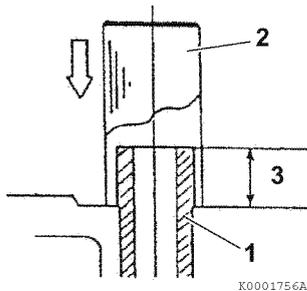

Figure 6-31
3. Finish installing the valve guides (1, **Figure 6-31**) into the cylinder head to the proper height (3, **Figure 6-31**) using the valve guide installation tool (2, **Figure 6-31**). See *Intake/Exhaust Valve and Guide* on page 6-5.